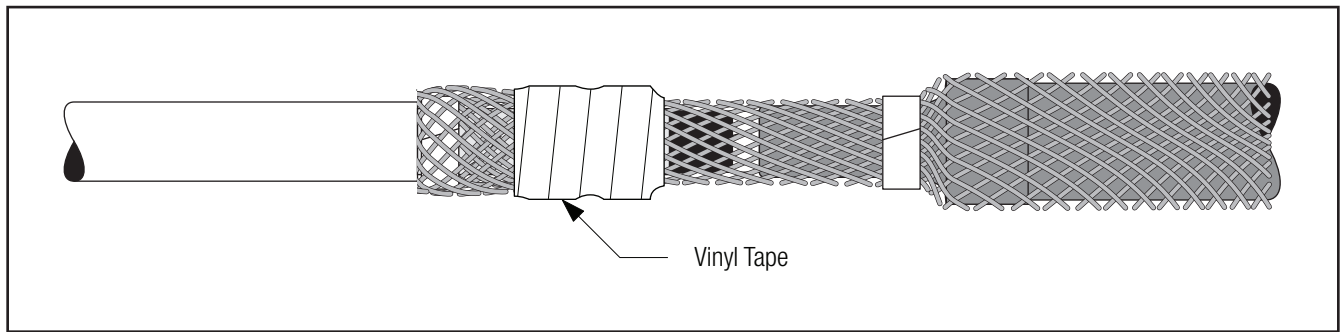

Figure 24
6.2.3 Wrap two layers of stretched vinyl tape over springs (Figure 24).